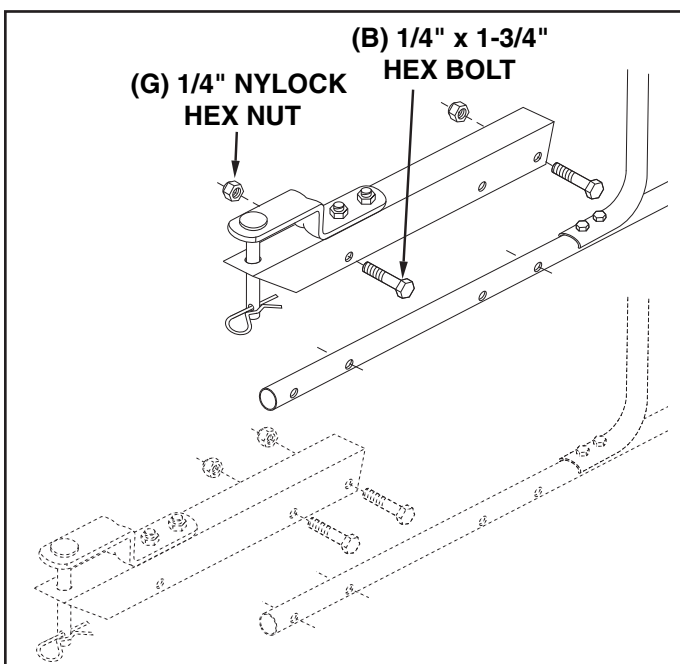

FIGURE 17
29. For most vehicles, assemble the hitch extension bracket to the holes in the hitch tube shown at the **top** of figure 17. Use two 1/4" x 1-3/4" hex bolts (B) and 1/4" nylock hex nuts (G) tightened only finger tight. Attach the spreader hitch to your vehicle hitch. Check for interference with the spreader directly behind and out to both sides of the vehicle. Lift the spreader at each position to make sure there is no interference with the spreader's flow control. If there is interference with the rear of the vehicle, assemble the hitch extension bracket as shown at the **bottom** of figure 17.